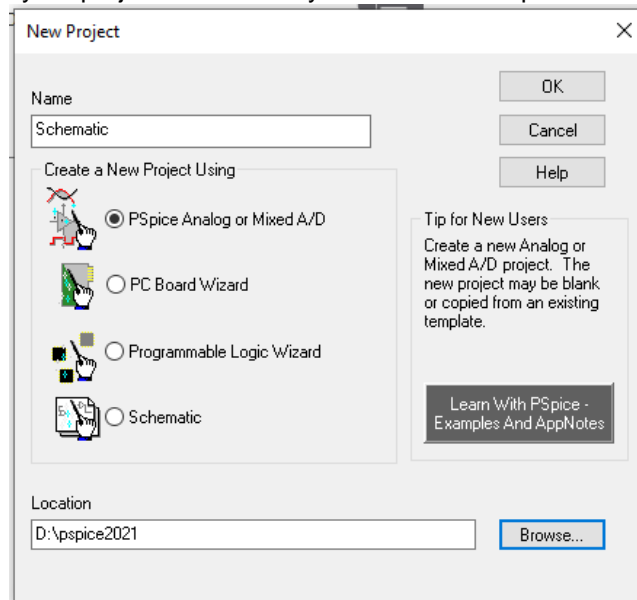

Figure 2 - New Project Window
- Select File -> New -> Project. From the New Project window, give your project a name, select "PSpice Analog or Mixed A/D", and select its location (see Figure 2). You're now ready to create your schematic.